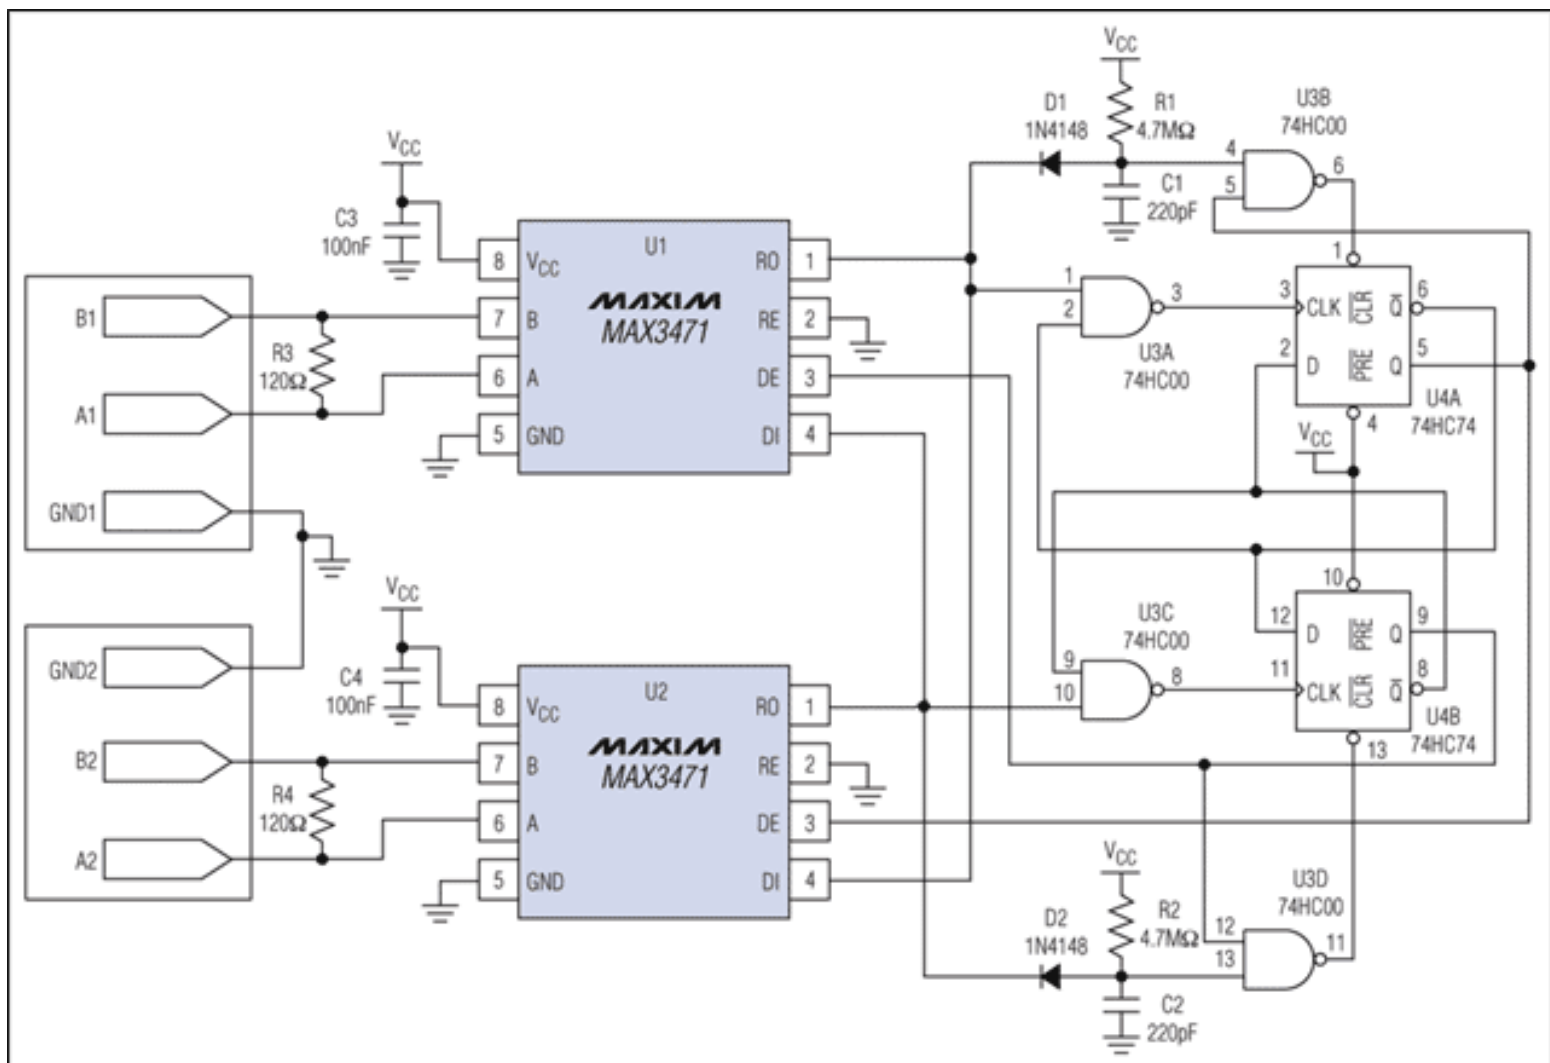

Figure 1. This RS-422 repeater draws only 3 $\mu$ A of standby current.
**Abstract:** The RS-422 interface is an excellent choice for communicating in noisy environments and over a distance. But, when the distance exceeds the RS-422 capability for reliable data transfer, you must add a repeater. The repeater circuit of Figure 1, which must operate from batteries when no power supply is available, draws less than 3 $\mu$ A of current from a 3V supply.
The RS-422 interface is an excellent choice for communicating in noisy environments and over a distance. However, when the distance exceeds the RS-422 capability for reliable data transfer, you must add a repeater. The repeater circuit in **Figure 1**, which must operate from batteries when no power supply is available, draws less than 3 $\mu$ A of current from a 3V supply.
Low standby power and true fail-safe operation are the key features in this application. U1 and U2 drive their receiver outputs (RO) high when the RS-422 inputs are open circuited or terminated and undriven. An incoming data byte on the differential inputs A1 and B1 forces a transition on RO of U1, and a state machine (right half of the Figure 1 schematic) is latched ON by the falling edge of RO. The state machine asserts a high level at U2's driver-enable pin, causing the incoming data byte to be retransmitted from U2 at full RS-422 levels.
An incoming data burst (**Figure 2**, top) is retransmitted as outputs A2 (bottom trace) and B2 (middle trace). U2 de-asserts those outputs 700 $\mu$ s after the final transition. Other delays can be implemented by adjusting R1/C1 and R2/C2 as shown in Figure 1.